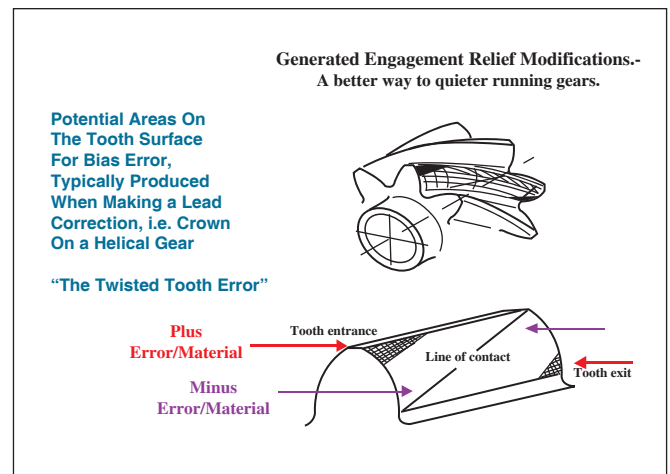

Figure 1—Line of action contact.
- The helical aspect relates the line of action contact pattern of two helical gears in mesh (Fig. 1);